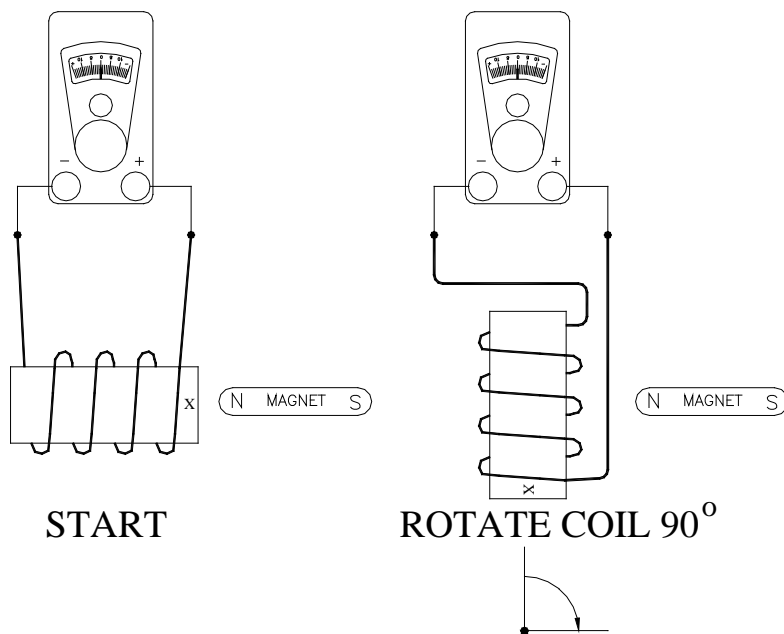

Figure 6 Diagram showing how to rotate coil 90 degrees relative to its axis.
9) Hold the north pole of your magnet close to the coil. Quickly rotate the coil 90° relative to its long axis as shown in Figure 6. If you do this right, you will observe a small deflection of the galvanometer needle. Record the direction the needle deflects on the galvanometer. From the current direction in the coil determine the direction of the induced field. Relative to the end of the coil originally near the magnet, is the direction of the induced field into or out of the coil? Is the direction of the change in the applied field along the axis of the coil, into or out of the coil?